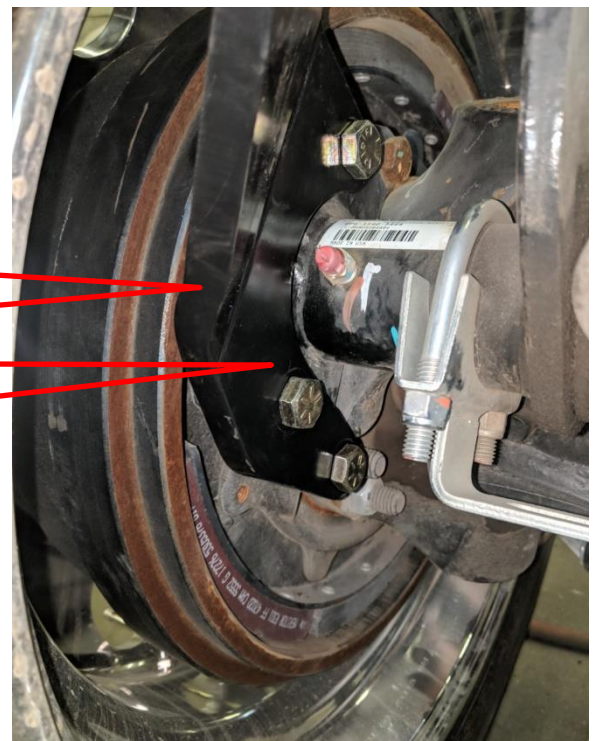

Figure 1 - Front View of Lift Axle
6. Install the PN#103889 bracket RH & PN# 103888 LH against the spacers as shown in Figure 1. Ensure that welded on tab of brackets sits directly on top of bump stop. Fasten with the 5/8 -11 locknuts (provided in PN #104383 hardware kit) and tighten to axle manufacturer's specification.